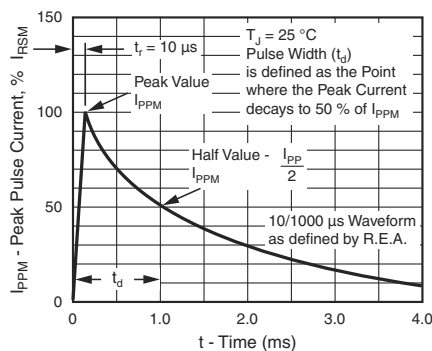
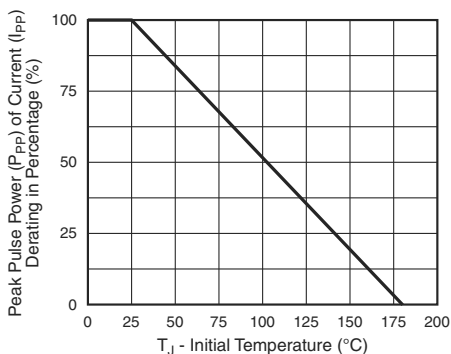

Fig. 3 - Pulse Waveform
Fig. 2 - Pulse Derating Curve
- (1) VBR measured after IT applied for 300 μs, IT = square wave pulse or equivalent
- (2) Surge current waveform per fig. 3 and derated per fig. 2
- (3) All terms and symbols are consistent with ANSI/IEEE C62.35